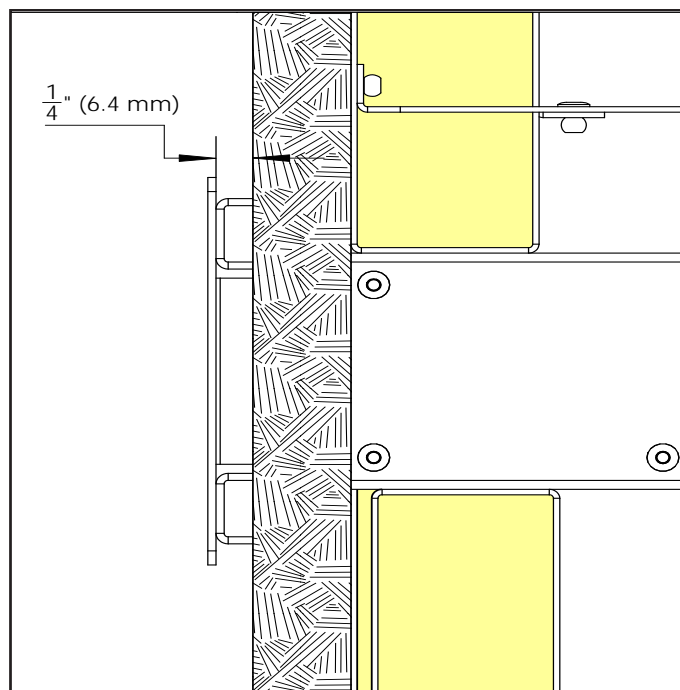

Figure 22. Outlet Trim Bezel - Standoff
Step 9: Finally, install the Outlet Trim Bezel by sliding it into the outlet until the backside contacts the finished wall surface. Next, re-install the two (2) screws removed in Step 2 to secure the Outlet Trim Bezel in place. When installed correctly there is a $\frac{1}{4}$ " (6.4 mm) standoff between the back side of the Bezel and finished wall (Figure 22).